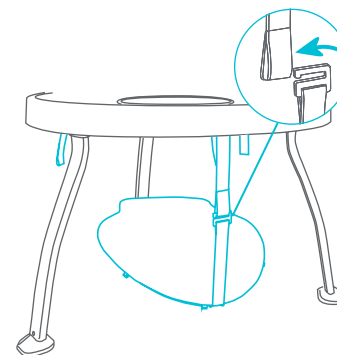

Fig. 3c
- With the smooth side up, align the pointed side of the platform to the front of the tabletop. Hook the adjustment plate to small strap using the lowest hoop (Fig. 3c). Repeat for the rear straps.